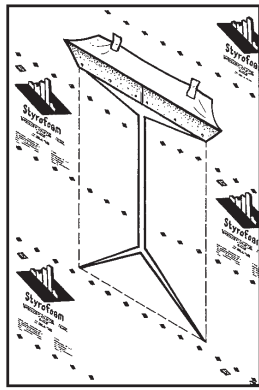

Figure 1
- c. At the top of each jamb, cut the housewrap 6" at a 45-degree angle. Pull up and temporarily fasten above window opening (Figure 1).